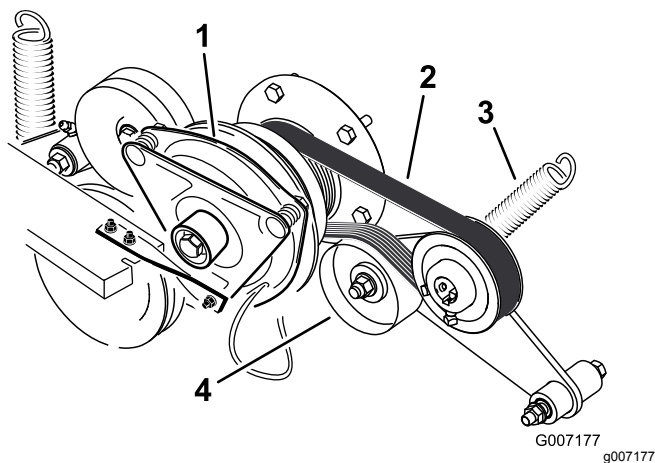

Figure 80
3. Remove the spring from the idler arm (Figure 80).
4. Install the new belt around the engine and hydraulic pump pulley (Figure 80).
6. Install the spring to the idler arm (Figure 80).